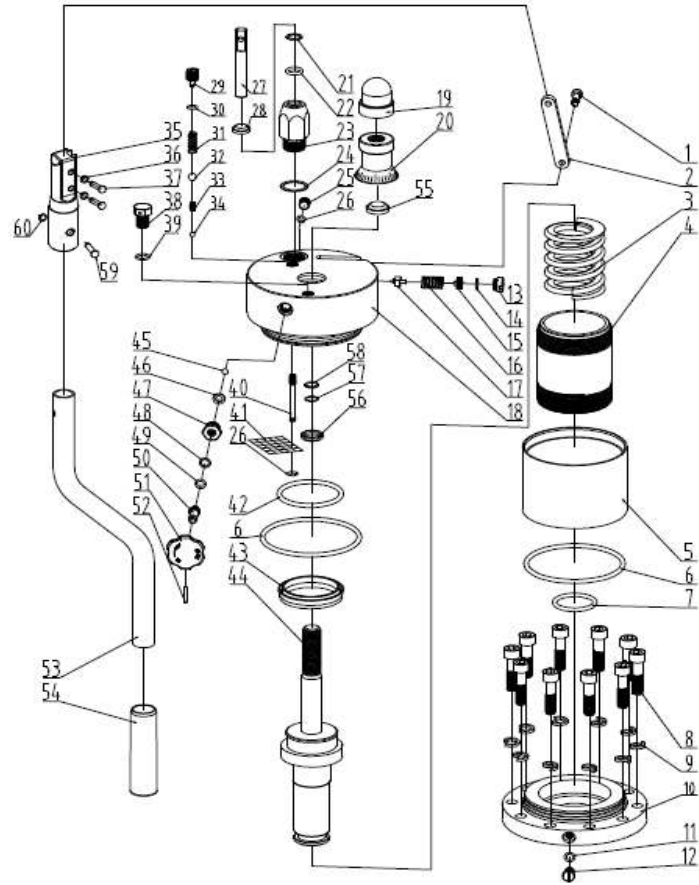

Fig.18
2. Oil pump parts form (Fig.18)